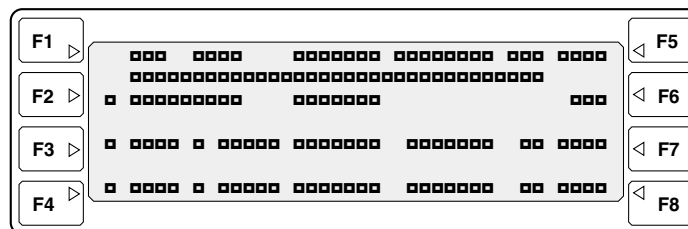

Figure 29. ATS Edit Screen
- ◆ ATS parameters – displays the DO, DC points with ATS extensions similar in format to the points displayed in the Point summary screen. After selecting a point the Master/Independent ATS edit screen (see Figure 29 on page 36) displays.
Selecting an ATS point from the Point Summary screen activates the ATS edit screen (see Figure 29).